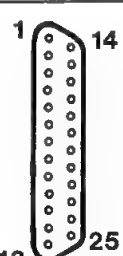

Figure 2-5. The Serial/Parallel Connectors
4. If you want to connect any peripherals to your computer, connect them now. Your computer is equipped with a serial port (COM1) and a parallel port (LPT1). Both are accessible through the back panel at slot 3. The serial port connector is a 9-pin D-type connector, configured as an RS-232C communications port. The parallel port connector is a 25-pin D-type connector, configured as a Centronics-type printer port. Figure 2-5 provides pinout information for serial and parallel ports on the computer.